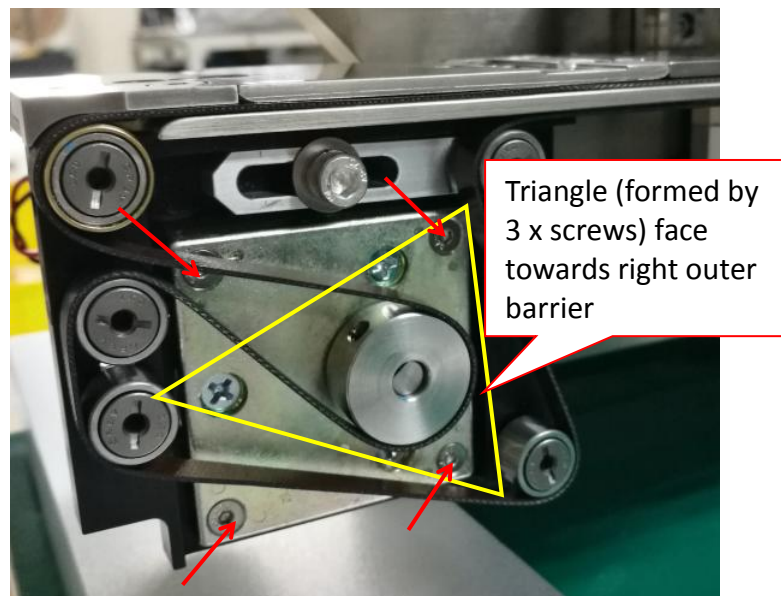

Figure 10 Conveyor Motor Assembly
3. Assemble Conveyor motor and tighten 4 x screws (M3 x 10) as shown in Figure 10.